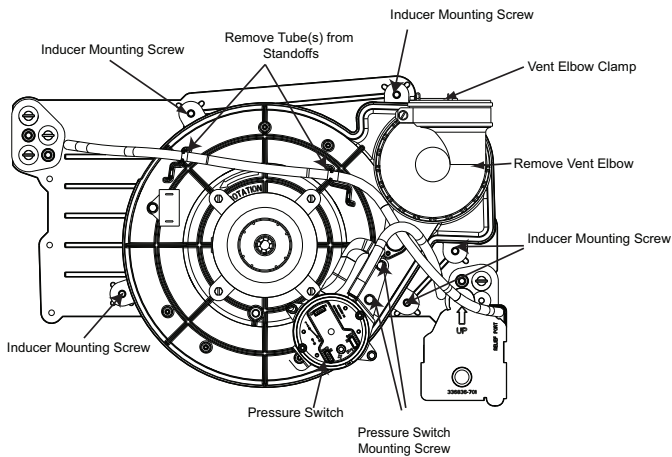

Fig. 1 – Loosen Vent Pipe Clamp
4. Loosen clamp for the vent pipe at vent elbow on the inducer assembly. See Fig. 1.
1. Remove the front pressure switch tube from the port on the collector box. See Fig. 1.
NOTE: If the condensate trap is removed, a new gasket between the trap and collector box is required. Obtain one from your local distributor. See Fig. 1 and Fig. 7.